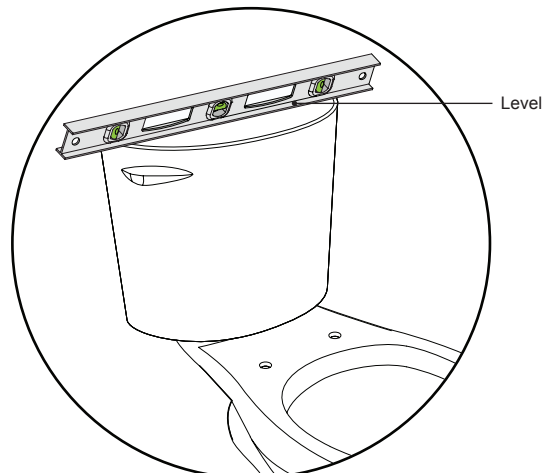

Figure 12
- 6 When complete, place a level across the top of the tank (Figure 12). The tank should be level. If it is not, make necessary adjustments at this time.